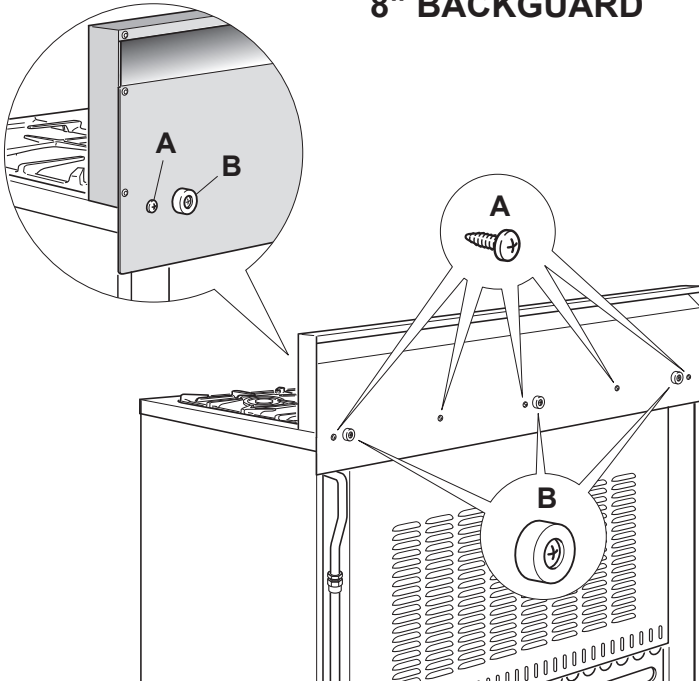

Fig. 1.8a
- Assemble the backguard as shown in figure 1.8a, 1.8b or 1.8c and fix it by screwing the 5 screws "A" (which are already fixed on the back of the cooktop).